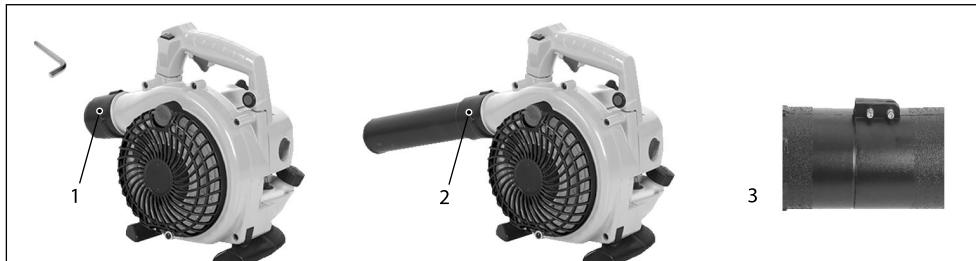

Fig. 1
1. Using the supplied allen key, undo the 2 bolts on the power head (1) and keep safe.
2. Insert the upper blower tube (2) into the power head as far as it can go and then replace the 2 allen bolts to secure.
3. Insert the lower blower tube (3) into the upper blower tube and secure with the 2 allen bolts provided in the tool kit. (Fig. 1).